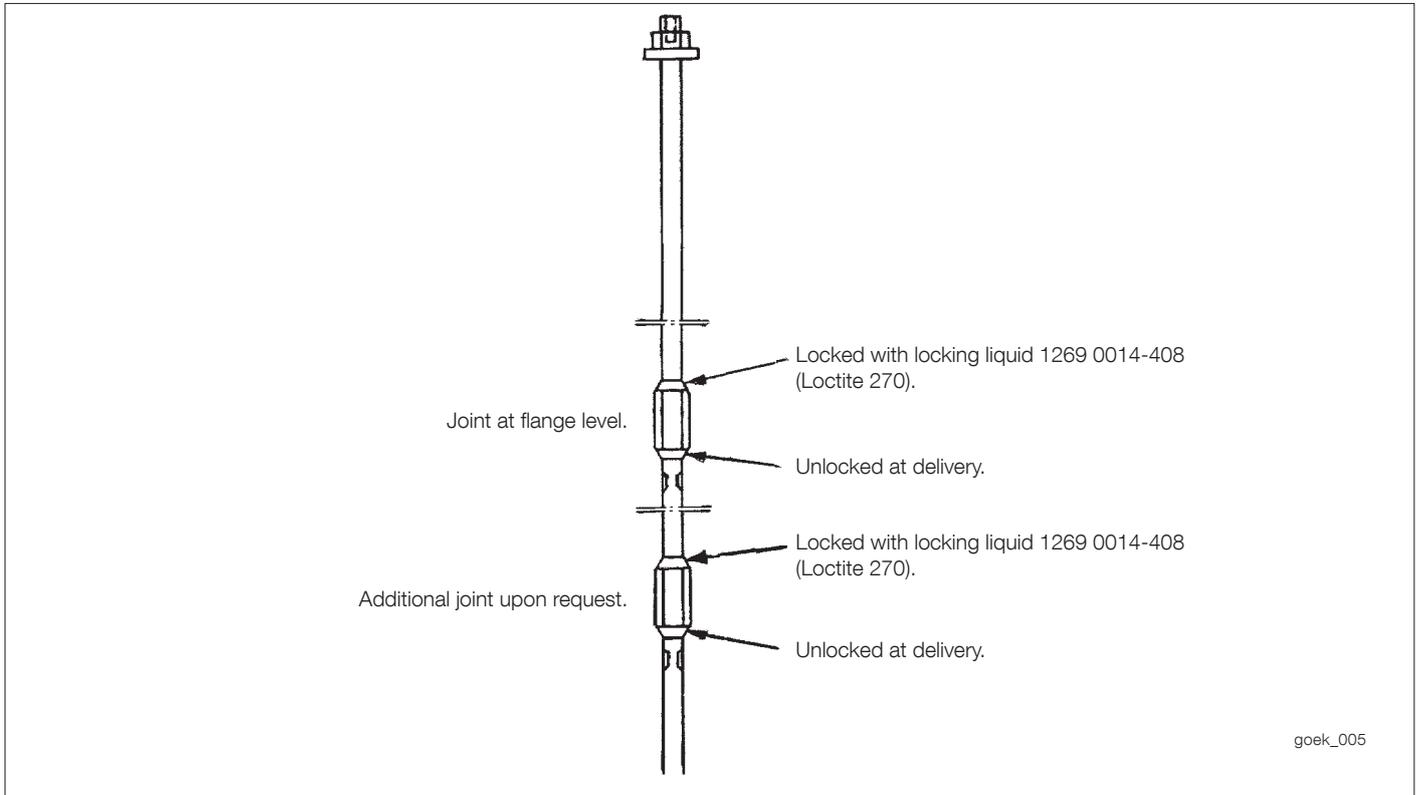

Fig. 12. Locking of draw rod.
1. If the draw rod is supplied with an additional joint e.g. to make it possible to remove a bushing turret for transport, the additional jointing sleeve shall be locked with locking fluid (Loctite 242 and activator Loctite T747) at site in order to avoid an unintended loosening of this joint at an eventual dismantling of the draw rod system later on. Fig. 12 shows how the joints are locked by delivery.
2. The cord, pulled through the bushing with the conical spring washers (4), the nut (3), and the box spanner (2) in place, is used for lowering of the upper part of the draw rod to the correct position for jointing with the threaded sleeve to the lower end part.